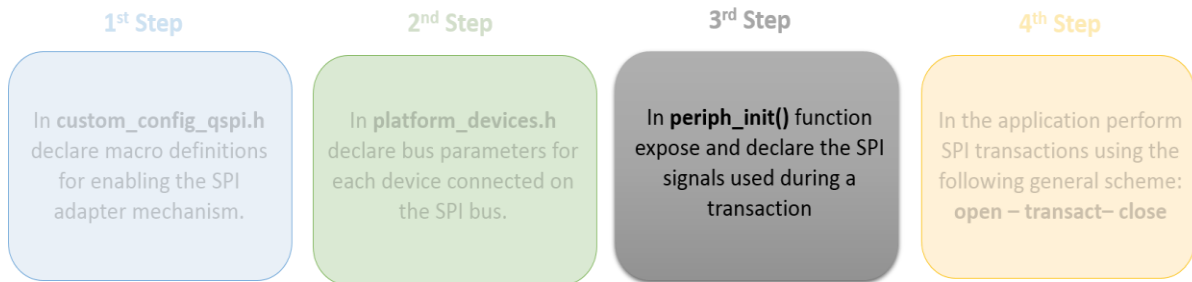

Figure 6: Third Step for Configuring the SPI Adapter Mechanism
- As illustrated in Figure 6, the third step is the declaration of the SPI signals. The user can multiplex and expose SPI signals on any available pin on DA1468x SoC.